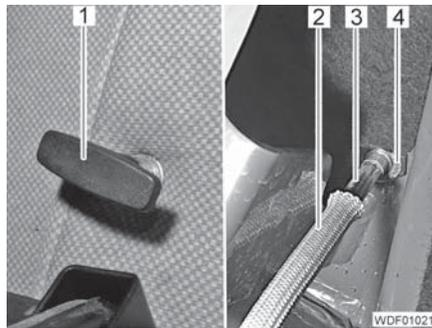

Fig. 283 Threading through the Bowden cable
- Unscrew the nut (Fig. 283,4).
- Unscrew the handle (Fig. 283,1).
- Remove the protective hose (Fig. 283,2).
- Pull out the Bowden cable (Fig. 283,3) in an inwards direction.
- Insert new Bowden cable (Fig. 283,3) from the inside through the wall of the cab.
- Slide the protective hose (Fig. 283,2) over the Bowden cable.
- Screw the handle (Fig. 283,1) onto the Bowden cable.
- Screw the nut (Fig. 283,4) onto the Bowden cable and tighten it.